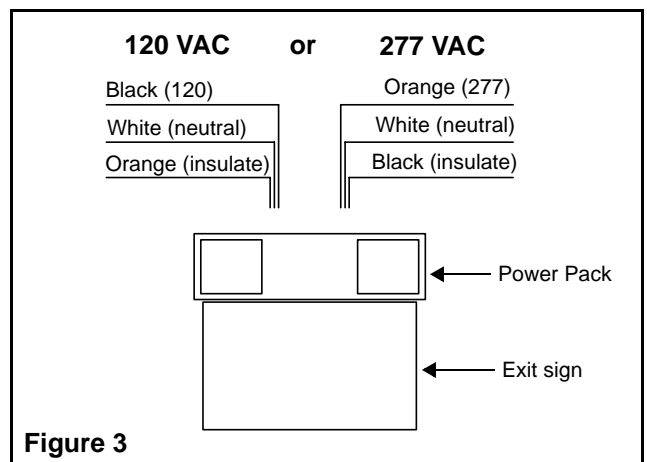

Figure 3
3. Our unit accepts an input voltage of 120 VAC or 277 VAC (see fig. 3).